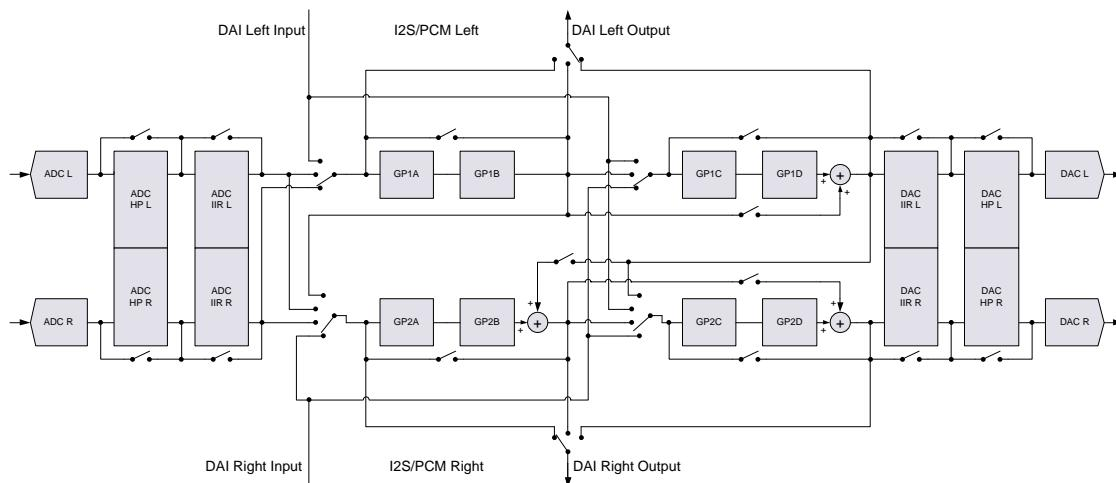

Figure 16: Digital signal processing engine (simplified block diagram)
A digital high pass filter for each DAC channel is implemented (configurable by control DAC_HPF_F0 (address 0x14, Table 61) that can be enabled via control DAC_HPF_EN (address 0x14, Table 61, see blocks ‘DAC HP’ in Figure 16). After Reset, the high pass filters for both channels are enabled by default.
The digital signal processing engine includes a configurable audio processor that offers flexible routing and extensive audio enhancement and effects. Linear phase FIR filters perform the interpolation and decimation for the required sigma-delta sample rates. Configurable high-pass filtering (optionally enabled) removes any signal DC offset (see blocks 'ADC HP' and 'DAC HP' in Figure 16) and offers 5-band equalisation during recording and sound playback.
Alternatively it can provide dedicated voice band filtering at samples rates ≤ 16 kHz (see blocks 'ADC IIR' and 'DAC IIR' in Figure 16).
An additional general purpose (GP) filter engine offers up to eight second-order biquad filter stages with configurable 16-bit coefficients, and supports flexible digital audio routing and mixing arrangements. Figure 16 shows some possible routings (a subset of the available settings) for filter blocks GP1A to GP2D with the related control registers. Typical use cases with example configurations are explained in the section 8.3.
To allow user-specific sound control, the recording path includes a programmable 5-band equaliser (combined in the ADC IIR blocks in Figure 16). This is enabled using control ADC_EQ_EN (address 0x13, Table 60).